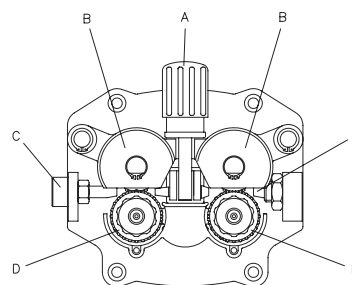

FIG. 9
- Loosen and lower the plastic knob (A) (Fig.9). Open the pressure arm (B) of the feeder. Extract the wire from the torch liner (E).
- When the wire is disconnected, grasp it with pliers so that it cannot exit from the spool. If necessary, straighten it before inserting it in the wire input guide (C). Insert the wire on the lower roll (D) and in the torch liner (E).
- Lower the pressure arm (B) and place the knob (A). Tighten slightly. If tightened too much, the wire gets locked and could cause motor damage. If not tighten enough, the rolls will not feed the wire.
- Open the side panel. Loosen and lower the plastic knob (A) and release the pressure arm (B) (Fig. 9). Cut the wire (in the case it is installed) grasp it with pliers so that it cannot exit from the spool and fix it on the suitable hole in the reel. Remove the nozzle and contact tip. Remove with pliers the wire from the hose and torch assembly.